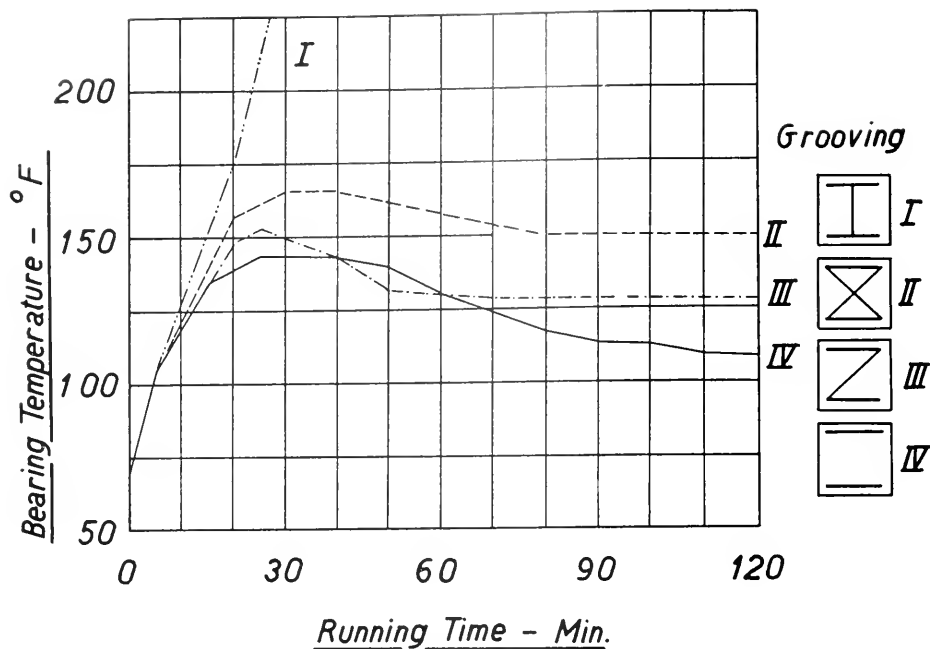

Fig. 13: Bearing temperature and grooving (Falz).
Fig. 13 shows measurements by Falz of the bearing temperatures obtained by varying the grooving of a partial, drip fed bearing. Bearing IV has only chamfers (oil pockets). With bearing I conditions are aggravated as compared with a full bearing by excessive centrifugal oil loss through the straight radial groove, for the lack of a cap. Otherwise we estimate the curve (I) would run somewhere between 150 and 200° F. Cases II to IV are normal, that is to say representative of the influence of the types of grooving indicated. It is the differences in bearing temperatures obtained that count.